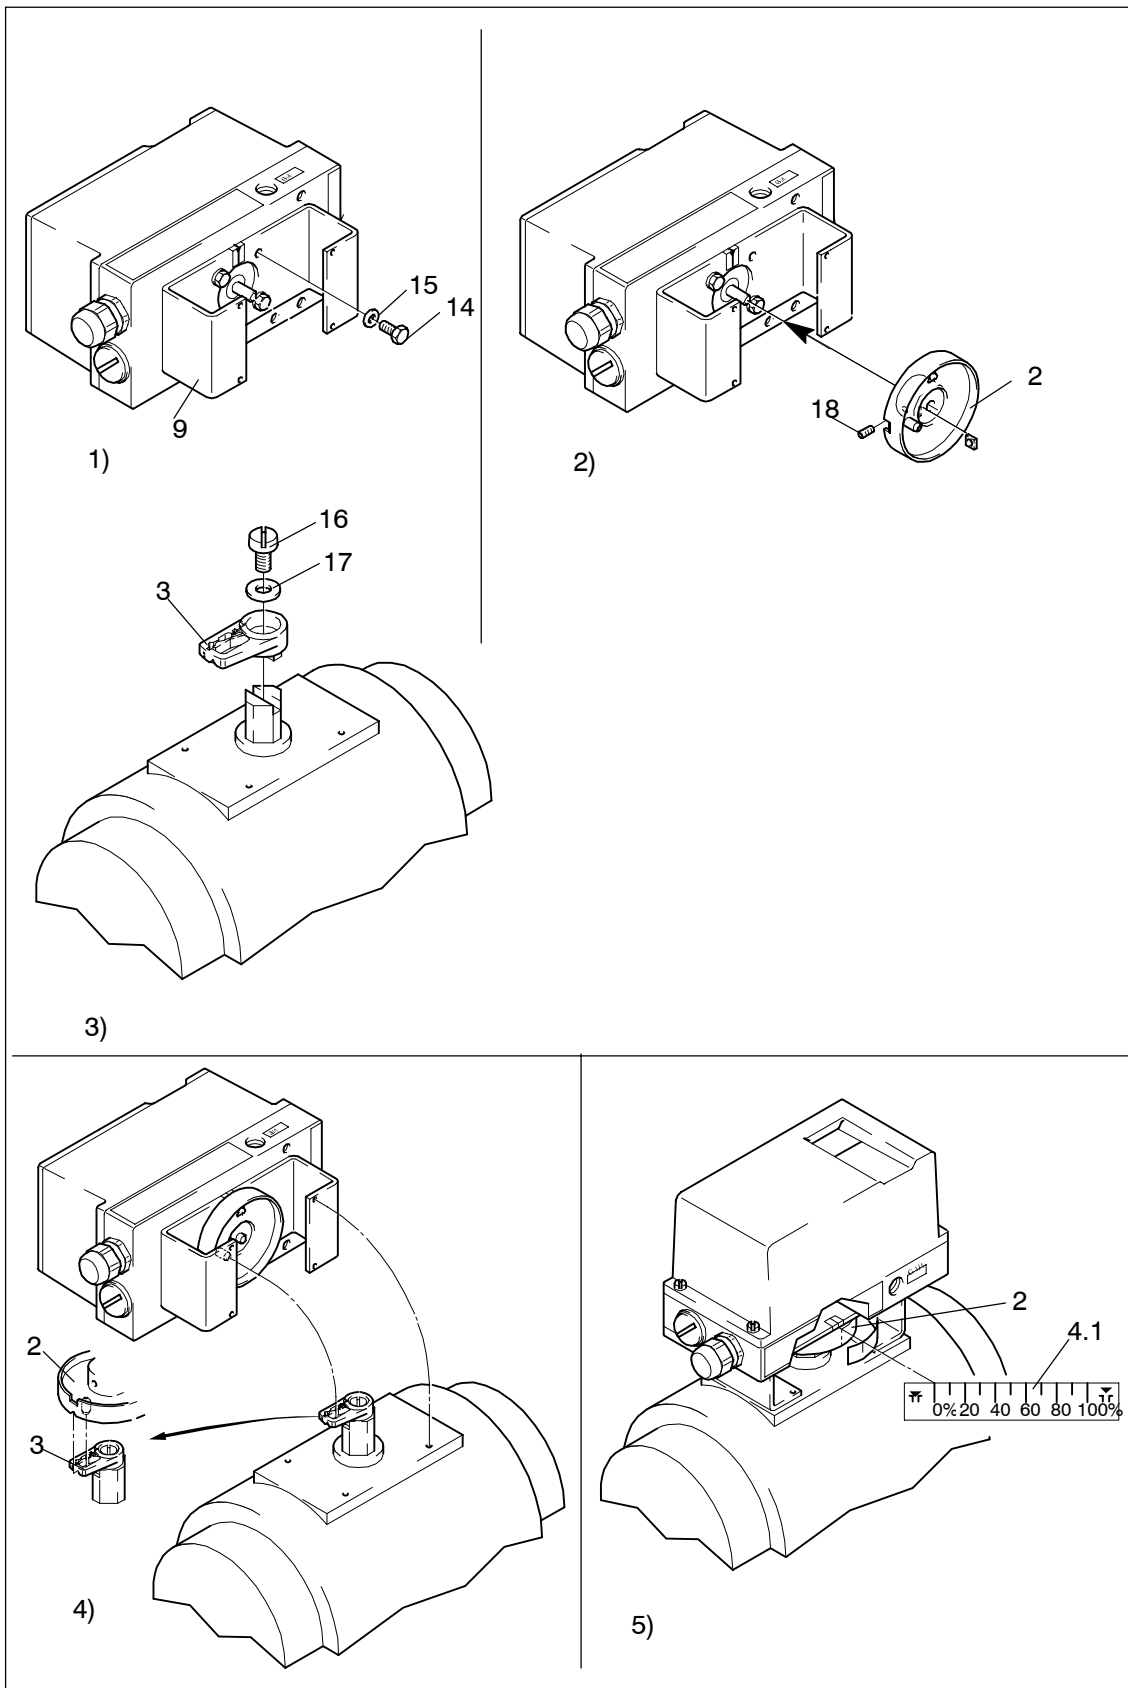

Figure 3-8 Assembly procedure (part-turn actuator)
The scope of delivery of the mounting kit “part-turn actuator” contains (ser. no. see figures 3-8 and 3-9):
3.3.6 Assembly procedure (see figure 3-8 and figure 3-9)